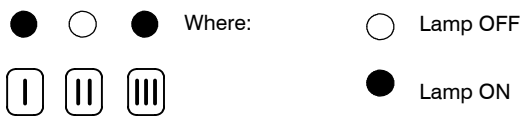

Fig. 40
- 12 Press the reset button C repeatedly (4 times) until the lamps E give the indication as in Fig. 40 (ignition pressure adjustment mode).